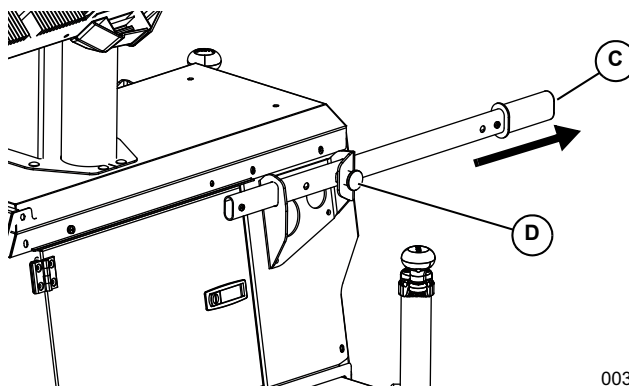

Figure 2-7. Extending the Handles
See Figure 2-7. Wheelbarrow-style handles (C) are provided for maneuvering the unit at the work site. Pull the spring-loaded knobs (D) and fully extend each handle. Then release the spring-loaded knobs to lock the handles in place.